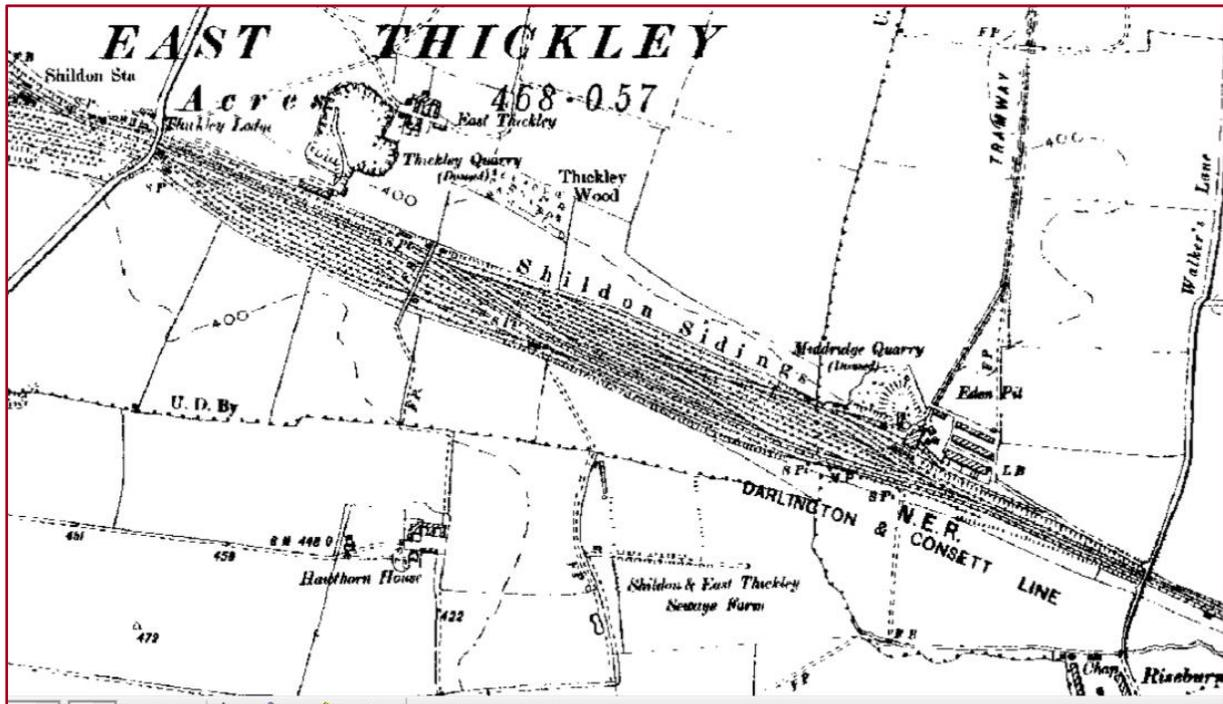

Figure 3. The 2nd edition OS map dating to 1897 showing the extent of the railway sidings after 70 years of growth
7. Keep a look out on your left for **stone walling**, partly hidden by trees. A high stone wall, with triangular copes, separated the railway line from Midridge Quarry, and may have supported sidings which extended out from the quarry to join the main line (see figure 3). The presence of the Stockton & Darlington Railway line made the export of materials from quarries and mines more practical, and so quarries such as this opened up along the way. This quarry was disused by the end of the 19th century. At the foot of this wall are a number of early stone sleepers. These are four hole sleepers, which were introduced in about 1834, to improve the stability of the rails.